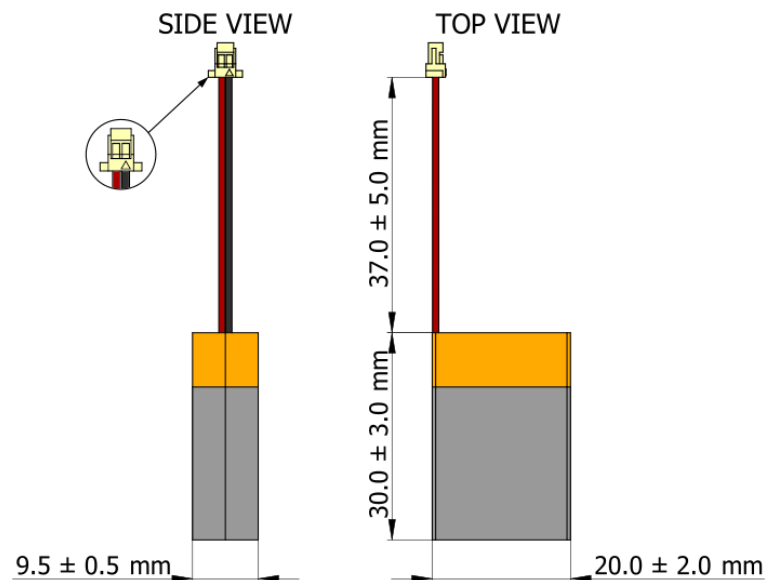

Figure 1: 500mAh Battery Drawing & Dimensions
1.1 Outline Dimensions: See attached drawing, Figure 1, for dimensions.